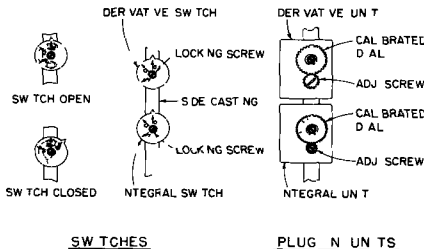

FIGURE 25 - Integral and Derivative Switches
4. Open derivative switch or valve of derivative plug-in unit. Close integral switch or valve of integral plug-in unit. Refer to Figure 25.